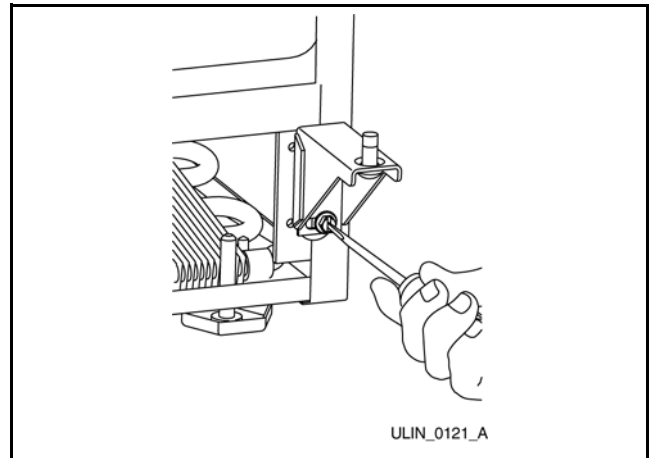

Figure 16
4. Remove bottom hinge from cabinet (two screws) (**Figure 16**).